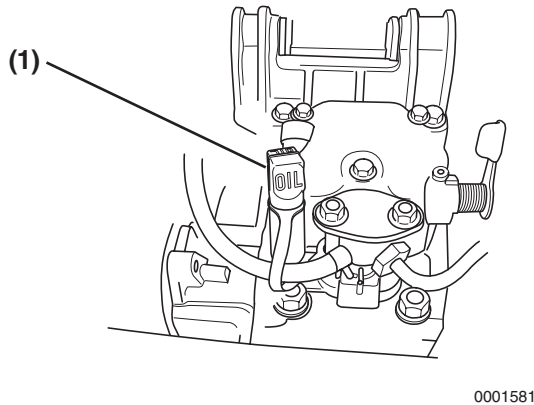

Figure 6
1. Remove the oil plug (**Figure 6, (1)**).
3. Reinsert the oil plug (**Figure 6, (1)**).